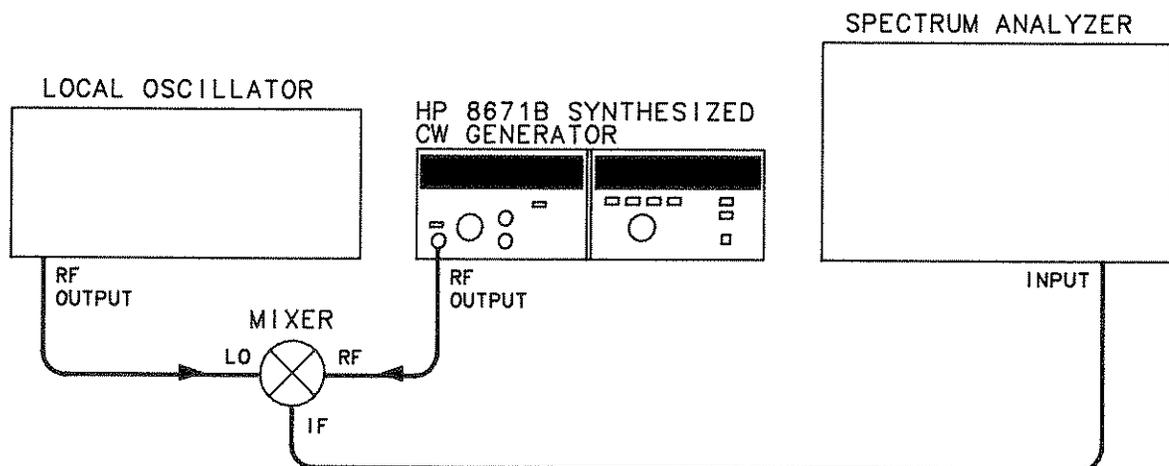

Figure 4-12. Single-Sideband Phase Noise Test Setup
2. Connect the equipment as shown in Figure 4-12.